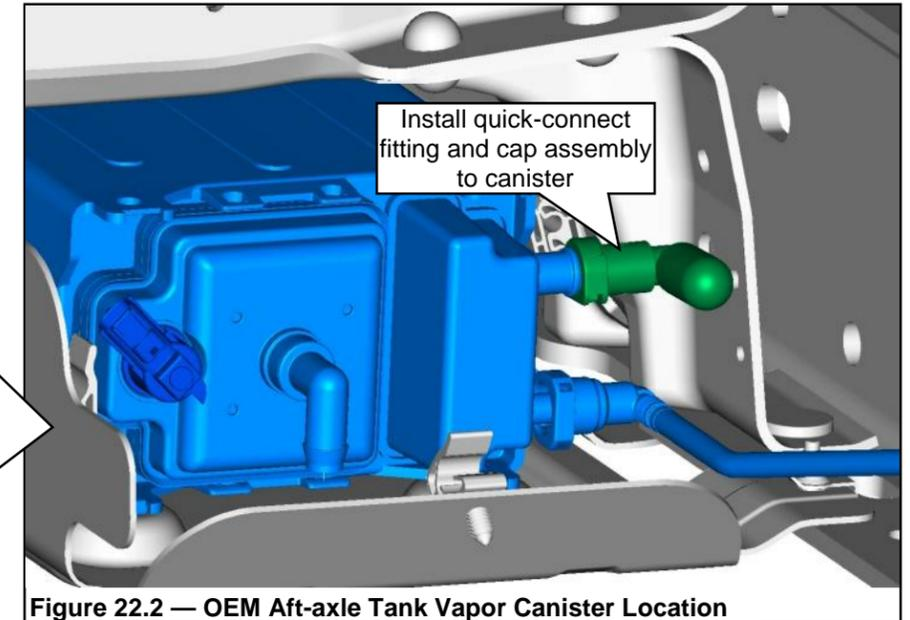

Figure 22.2 — OEM Aft-axle Tank Vapor Canister Location
2. Install assembly onto vapor canister top front port or upper rear port. **Figures 22.2 and 22.3.**